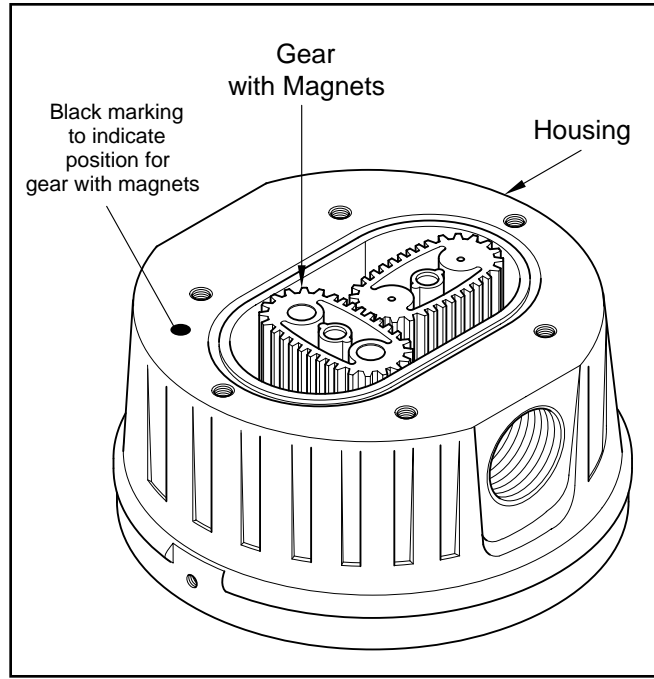

Figure 4 Housing Assembly with Gears- Bottom View
1. Install Gear (6) with the magnets into Housing (4).
- Make sure to locate the Gear properly in the Housing. See **Figure 4**.